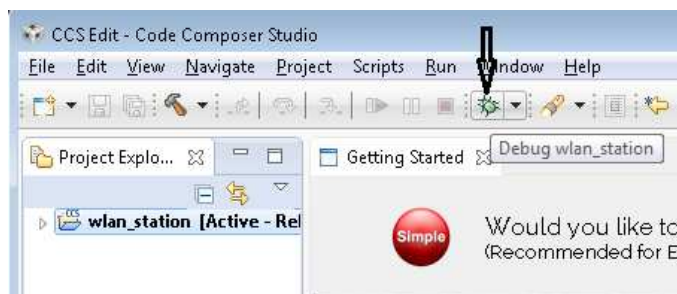

Figure 15. Debug wlan_station
18. Launch application. Select the `wlan_station` project in Project Explorer, then click the debug icon as shown in Figure 15 to download code to the device and begin debugging. Press F8 to begin execution.